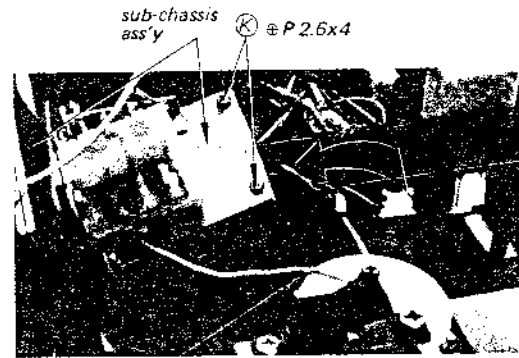
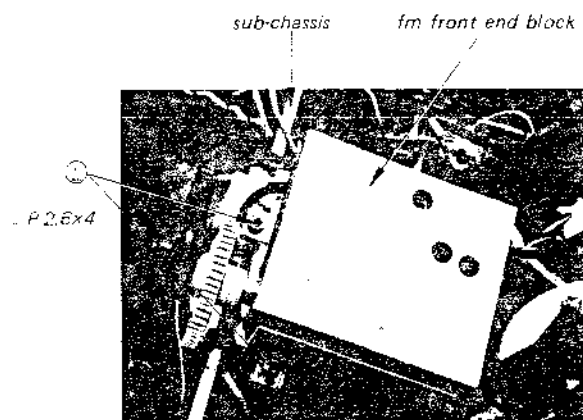

Fig. 2-15. Fm front end block removal
Fig. 2-16. Fm front end block removal
8. Lift up the sub-chassis ass'y as shown in Fig. 2-15.
9. Remove the four screws marked ③ in Fig. 2-15 and ④ in Fig. 2-16.
3. Set the front end block to the sub-chassis as shown in Fig. 2-16 and fix it with the four screws.
1. Take out the sub-chassis as described in procedure 2-6. (See Fig. 2-15.)